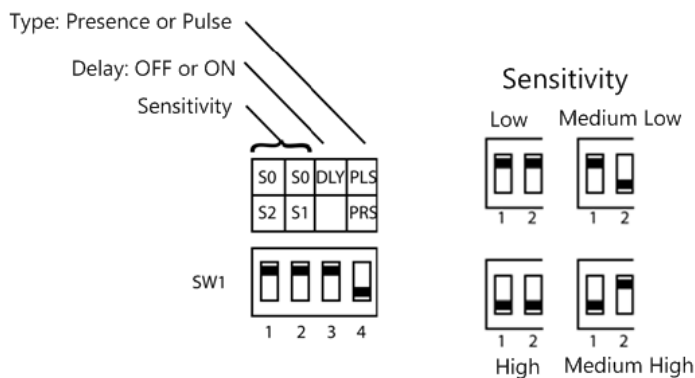

Figure 14
- Configure the dip switches according to the table on the circuit board and your needs (see Figure 14).